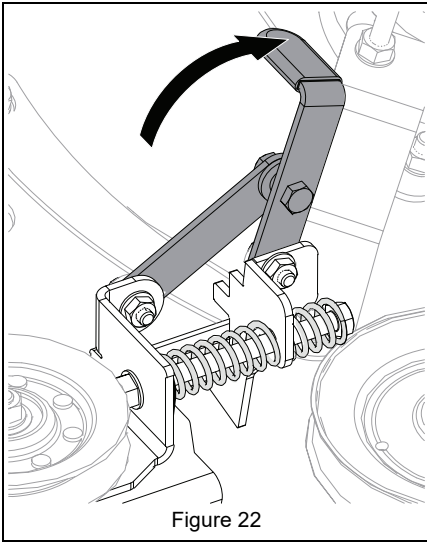

Figure 22
- Place blower belt tensioner in the non-tensioned position. See Figure 22.